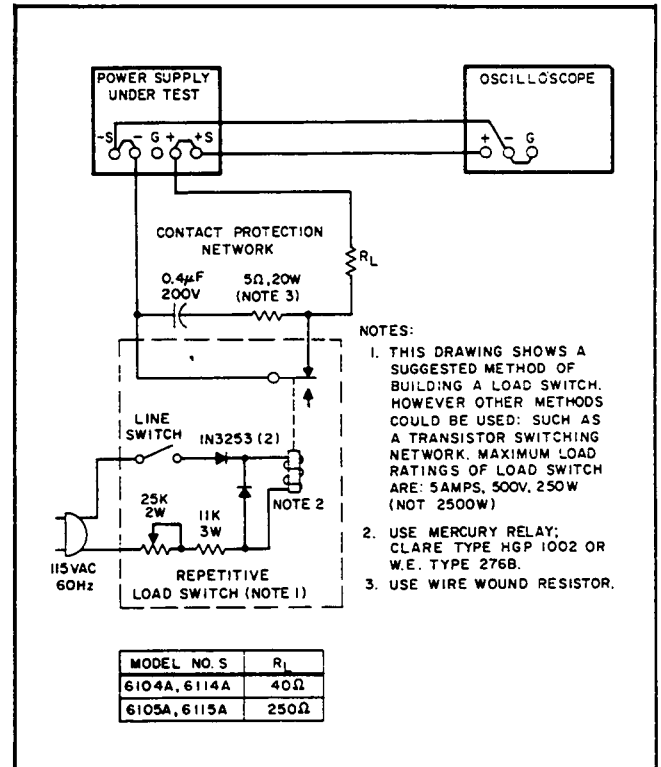

Figure 5-5. Transient Recovery Time Test Setup
5-31 A mercury-wetted relay, as connected in the load switching circuit of Figure 5-5 should be used for loading and unloading the supply. When this load switch is connected to a 60Hz ac input, the mercury-wetted relay will open and close 60 times per second. Adjustment of the 25K control permits adjustment of the duty cycle of the load current switching and reduction in jitter of the oscilloscope display.
- a. Connect test setup shown in Figure 5-5.